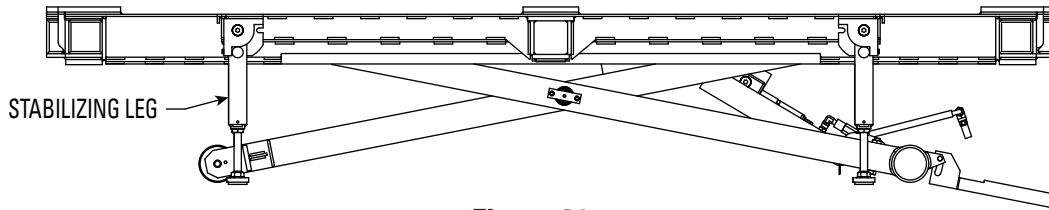

Figure 31
1. Raise the lift and vehicle by pressing the pump portion of the pedal on the Lift Pump until the all of the Stabilization Legs can fall and become completely vertical (see Figure 31).